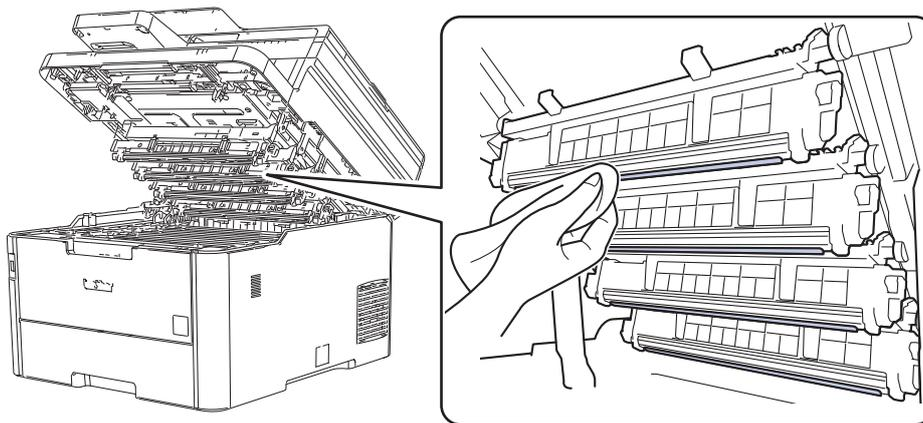

Fig. 2-21
- Wipe the LED ASSY with a soft, lint-free cloth. (Refer to Fig. 2-21.)